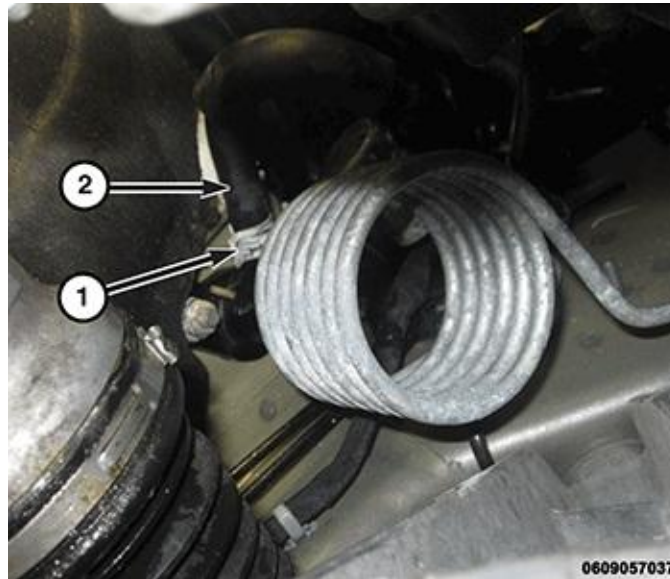

Fig. 7 Supply Hose And Clamp
10. Install the new hydraulic clutch master cylinder supply hose (3) and install the clamp (Fig. 7).